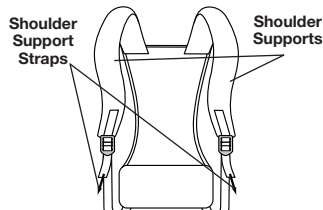

Fig. 2
2. Pull the shoulder support straps down to tighten the shoulder supports (Fig. 2).